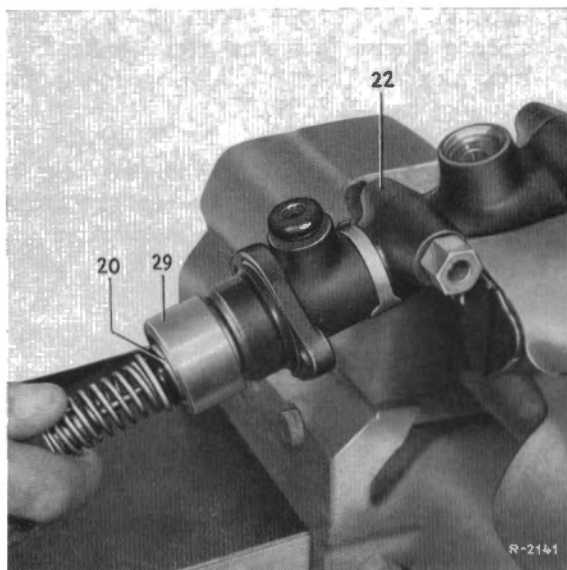

Fig. 42-3a/23
Note: Do not leave out the piston stop washer (13) which is a stroke limitation for the piston of the push rod circuit (Fig. 42-3a/17).